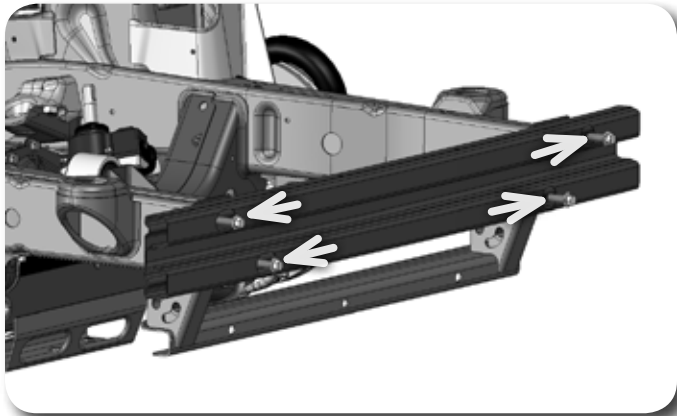

Figure 6
14. Remove the 2 bolts per side mounting the front crash bar to the frame. See Figure 6